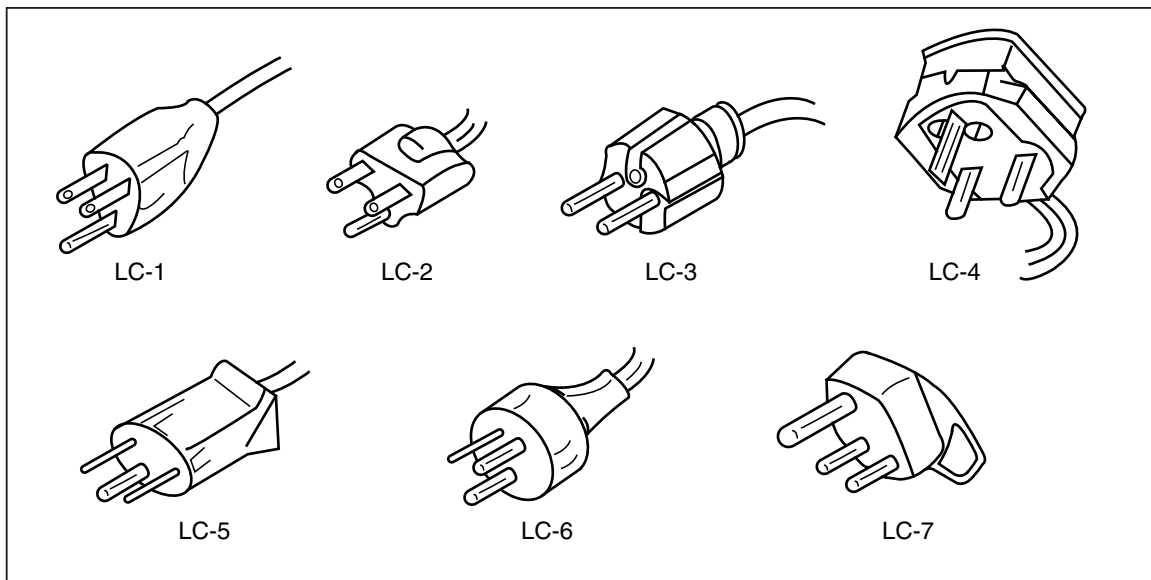

Figure 2-3. Line-Power Cord Types Available from Fluke
3. Connect the power cord to a properly grounded three-prong outlet. See Figure 2-3 for line-power cord types available from Fluke. Refer to Table 2-2 for descriptions of the line-power cords.